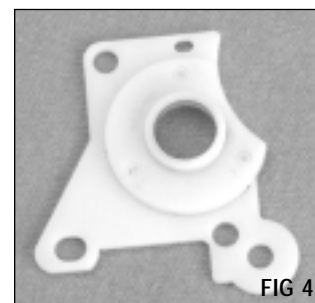

FIG 4
*A variation of the stabilizer shown in FIG 4.*